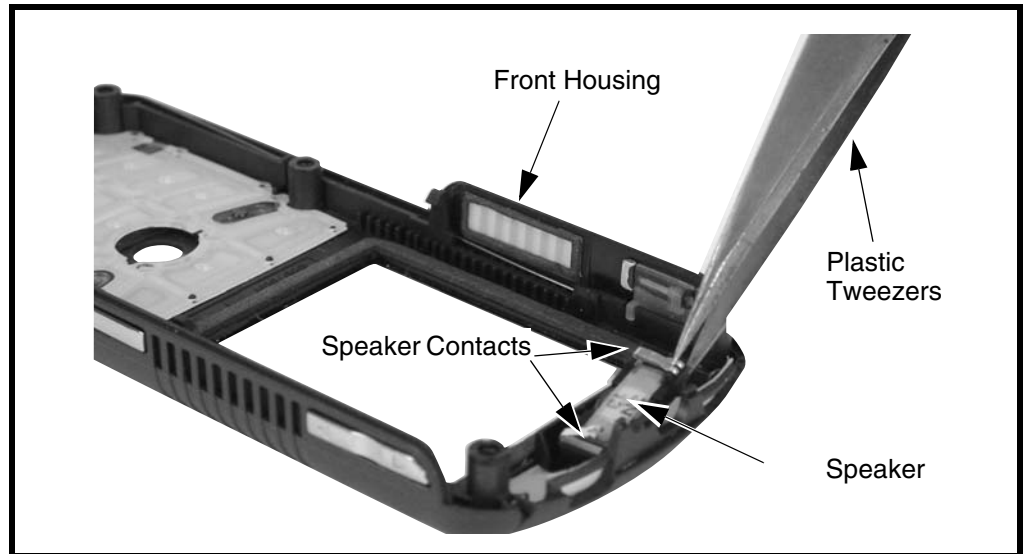

Figure 12. Removing and Replacing the Speaker
1. Remove the battery cover, battery, SIM, rear housing, and transceiver printed circuit (PC) board as described in the procedures.
2. Use the disassembly tool or plastic tweezers to release the speaker from the front housing as shown in Figure 12. The speaker should come away easily.